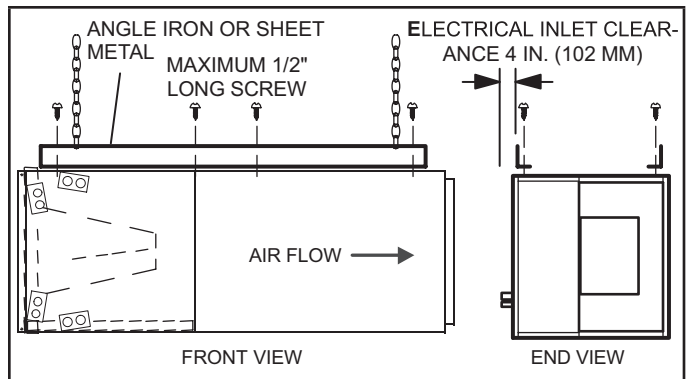

FIGURE 14. Suspending Horizontal Unit
- 6 - If the unit is suspended, the entire length of the cabinet must be supported. If you use a chain or strap, use a piece of angle iron or sheet metal attached to the unit (either above or below) to support the length of the cabinet. Use securing screws no longer than 1/2 inch to avoid damaging the coil or filter. See FIGURE 14. Use sheet metal screws to connect the return and supply air plenums as required.
- 11 - If suspending the unit, it must be supported along the entire length of the cabinet. If using chain or strap, use a piece of angle iron or sheet metal attached to the unit (either above or below) so that the full length of the cabinet is supported. Use securing screws no longer than 1/2" to avoid damage to coil or filter, as illustrated in FIGURE 14. Connect return and supply air plenums as required using sheet metal screws.